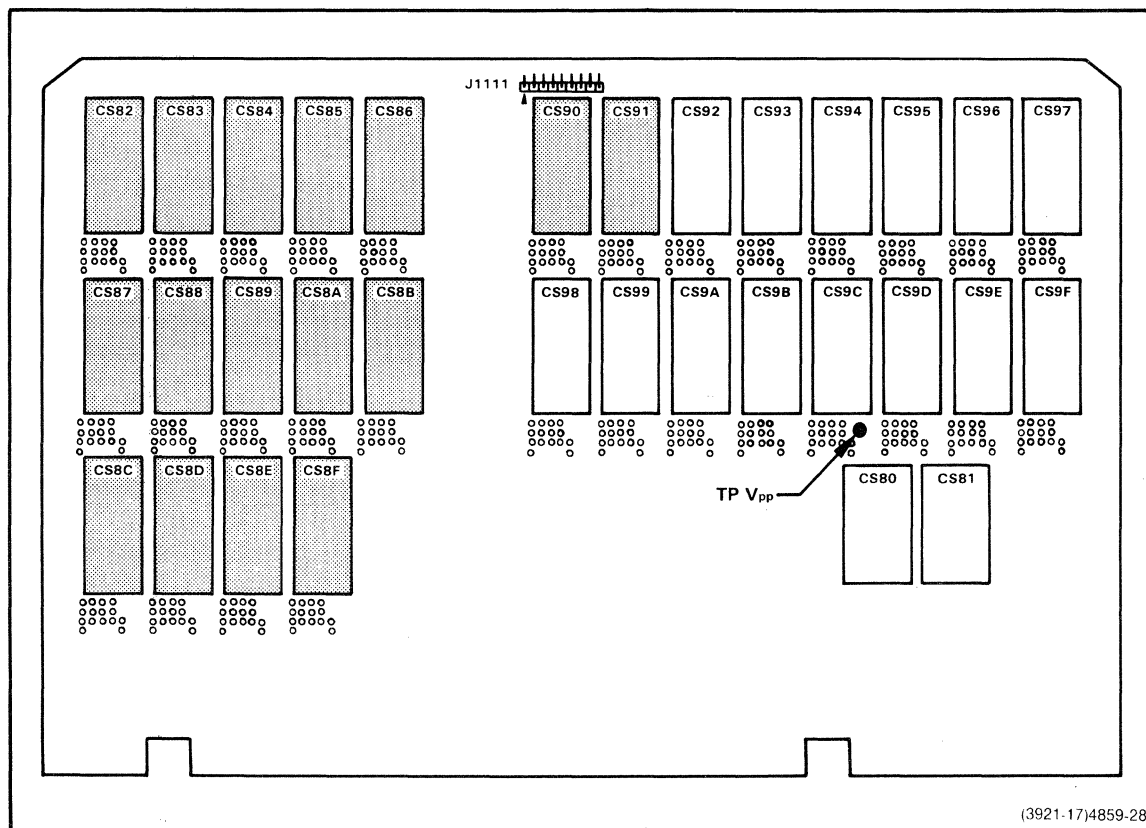
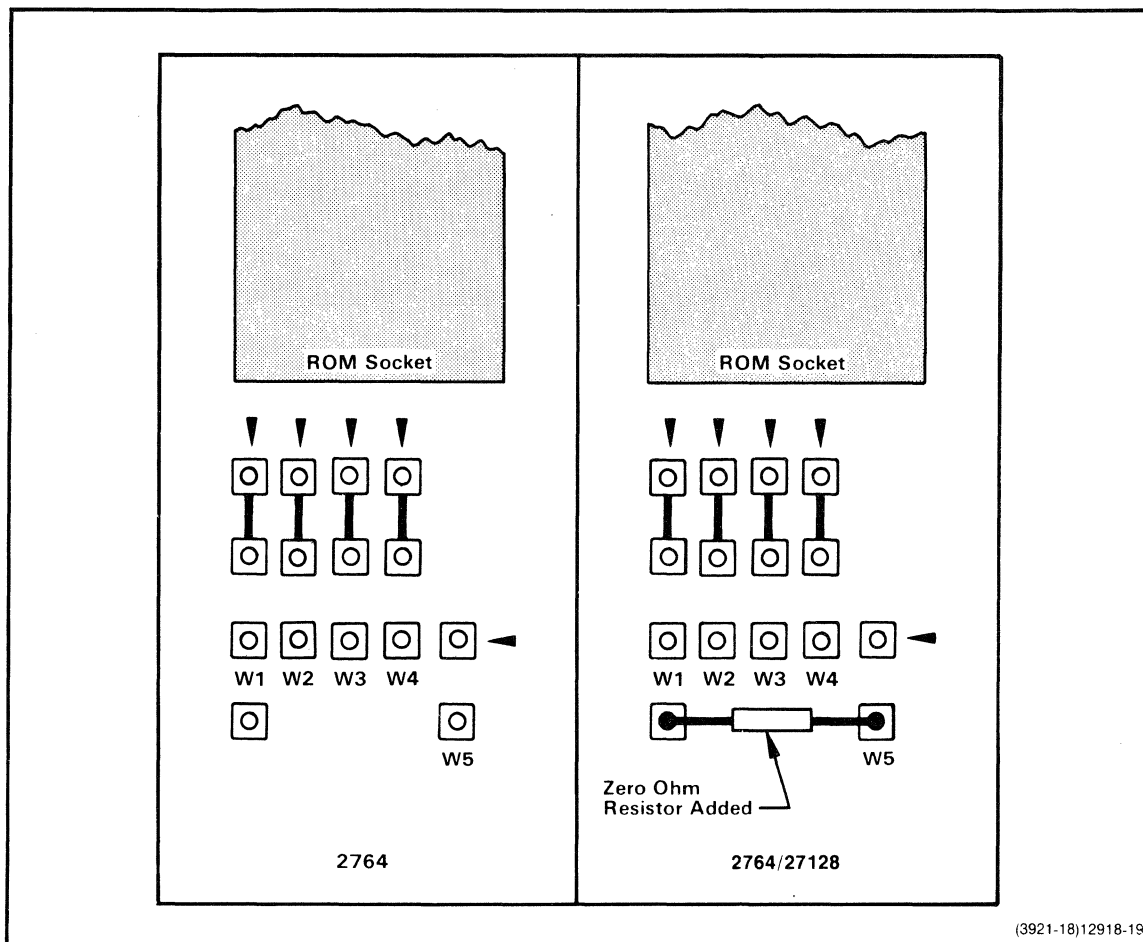

Figure 6-10. System ROM Board socket locations.
Figure 6-11. Type-2764 and type-27128 ROM strapping.
3. Check the part number on the ROM labeled "BASE DIAG 1" installed in your System ROM Board. BASE DIAG 1 is normally installed in the socket labeled CS94 shown in Figure 6-10. The socket circuit designator is U1160. If the BASE DIAG 1 part number (160-1378-xx) is lower than the part number on the BASE DIAG 1 ROM shipped with your emulator, then replace the installed ROM with the new ROM. (Install the BASE DIAG 1 ROM with the highest extension number.)
4. The four type-27128 ROMs shipped with your emulator may be installed in any available sockets you choose. However, it is recommended that emulator option ROMs be installed in any of the ten sockets labeled CS82–CS8B shown in Figure 6-10. (The socket circuit designators are U1010, U1030, U1050, U1060, U1070, U3010, U3030, U3050, U3060, and U3070).
The 8540's System ROM Board was originally shipped from the factory with the ROM sockets configured for only type-2764 ROMs. In recent shipments of the System ROM Board, the ROM sockets CS82 through CS91 are configured for both type-2764 and type-27128 ROMs. See Figure 6-11. If your 8540's System ROM Board is not configured for type-27128 ROMs, sixteen 0-ohm resistors are provided with the 80186/80188 Emulator to make this modification to ROM sockets CS82 through CS91 before the type-27128 ROMs are installed.
5. Solder a 0-ohm resistor (provided with your emulator) across the lower strap positions of each socket CS82 through CS91. The sockets CS82 through CS91 are shown as shaded areas in Figure 6-10. Figure 6-11 shows the position of the 0-ohm resistor. After a socket is modified, either a type-2764 or a type-27128 ROM can be installed in the socket. Insert the four type-27128 ROMs provided with your emulator into any four sockets CS82 through CS8B shown in Figure 6-10.
- Install the PROM Programmer option ROMs in locations CS90 and CS91 shown in Figure 6-10. The socket circuit designators are U1110 and U1120.
- Install the Trigger Trace Analyzer option ROMs in locations CS8C, CS8D, and CS8E shown in Figure 6-10. The socket circuit designators are U4010, U4030, and U4050.
- Install the Communications option (COMM Option) ROM in location CS8F shown in Figure 6-10. The socket circuit designator is U4060.